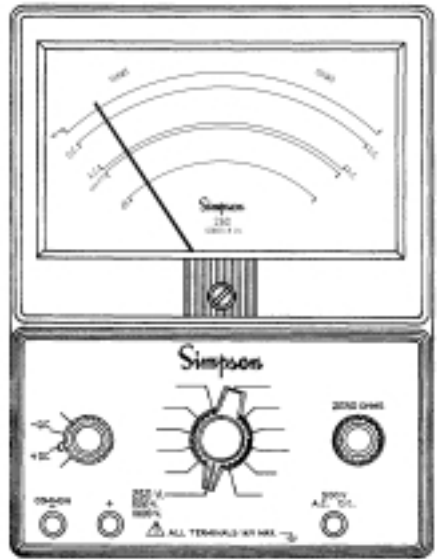

Figure 4-2. Jacks and Switch Positions for Measuring DC Voltage, 0-250 Ranges
- Set the function switch at +DC (Figure 4-2).